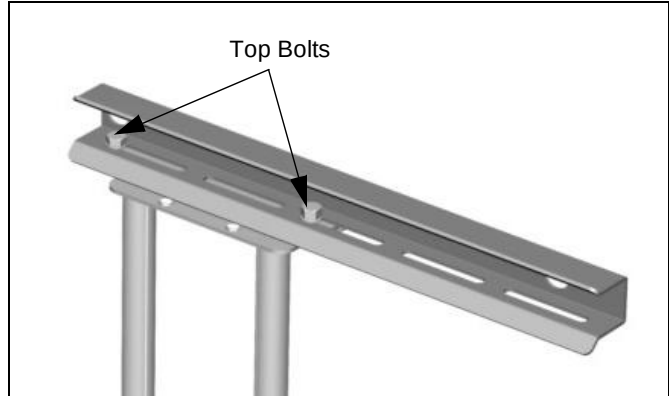

Figure 13
- Left of Center (See Figure 13).